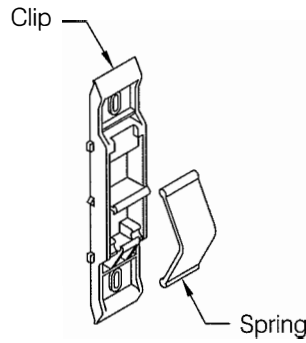
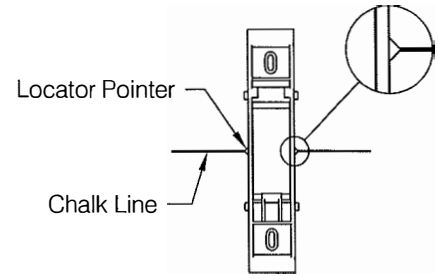
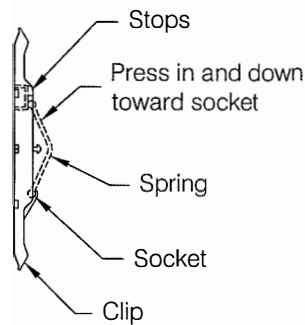

fig 2
fig 3
fig 8
- Step 2:** Each Red-E-Clip[®] retainer consists of a base or "Clip" and an impact cushion or "Spring" shipped separately, see **fig 2**. Secure clips to wall by aligning the molded location pointers in the clip with the chalk line, see **fig 3**. While the clip may be installed either end up it is recommended that the spring socket be oriented down, see **fig 8**.
- Note:* Install spring by snapping ball of spring into socket provided in clip. The easiest method is to locate the ball opposite the socket against the "stops" provided in the clip and snap the ball into the socket by pressing the crown of the spring both down and toward the socket, see **fig 8**.